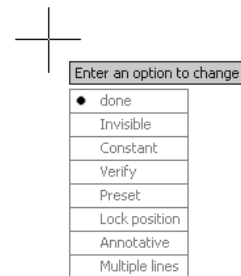

Figure 17-5 Dynamic prompt for the **-ATTDEF** command
*You can use the **-ATTDEF** command to display the dynamic prompt in the drawing area. The options in the **Attribute Definition** dialog box are available through the dynamic prompt too. See Figure 17-5.*